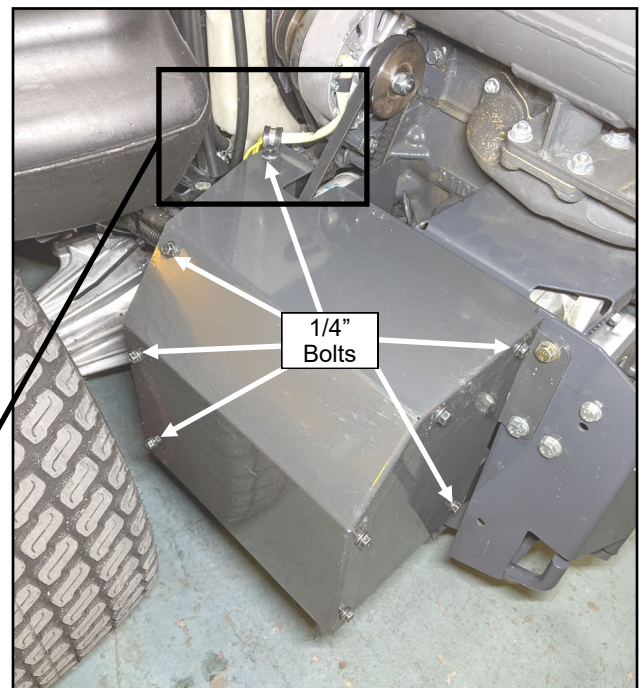

Fig. 9.3a (Install Rear Shroud Panel)
- 9.3 See figs. 9.3a and 9.3b. Assemble the rear shroud panel over the compressor. **Secure the dynamo wiring to the shrouds with a p-clamp.** Tighten all shroud bolts at this time. Verify that there is clearance all around hoses and belt. Loosen shroud and adjust, if necessary, to gain adequate clearance.